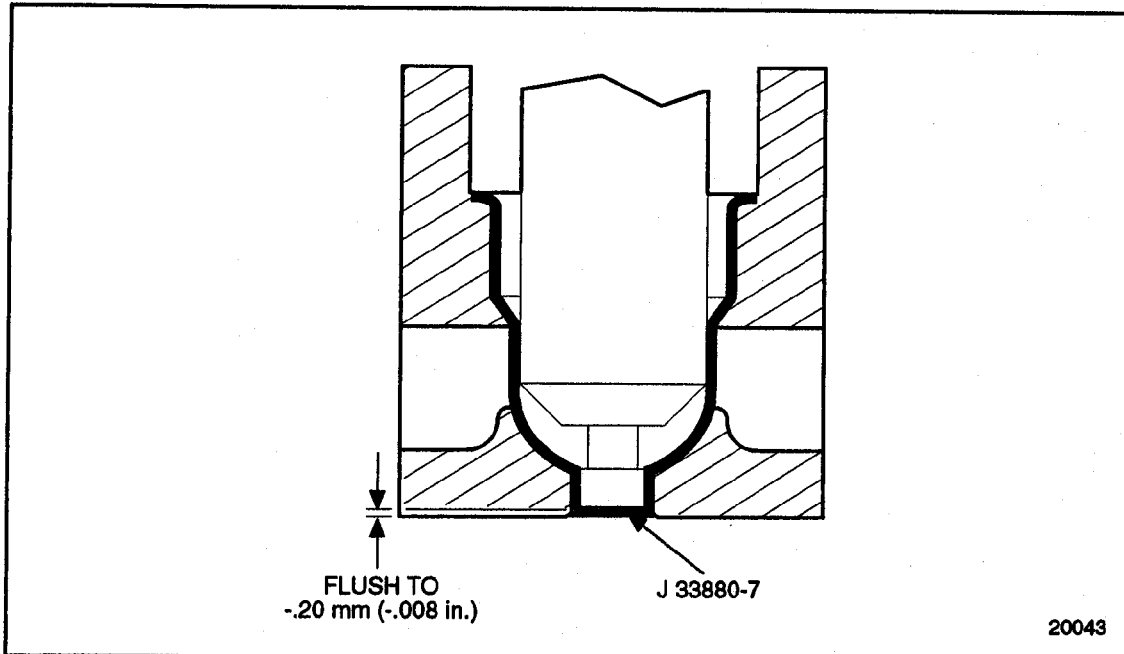

Figure 2-25 Checking Injector Tip Protrusion
2. Insert J 33880-7 part of J 33880, into pilot. See Figure 2-25.